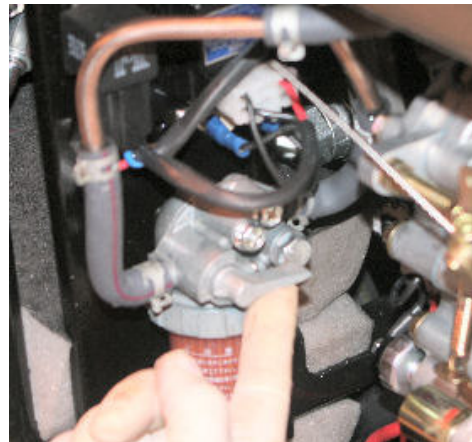

Fig 3-14 Fuel valve
1. Set the fuel valve to Off (*Fig 3-14*).